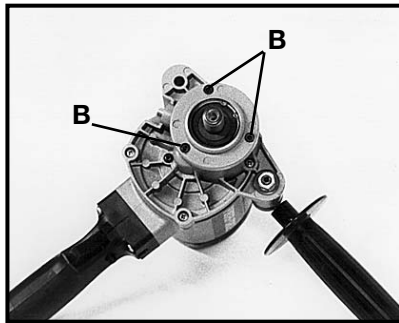

Fig. 5
2. Remove three gear case cover screws (B) Fig. 5 with a 9/64" Allen wrench. Turn counter-clockwise